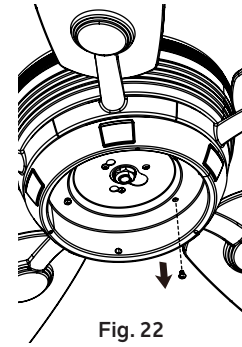

Fig. 22
**Step 1.** Remove one of the three screws on the light plate, loosen the other two (but do not remove). (Fig. 22)